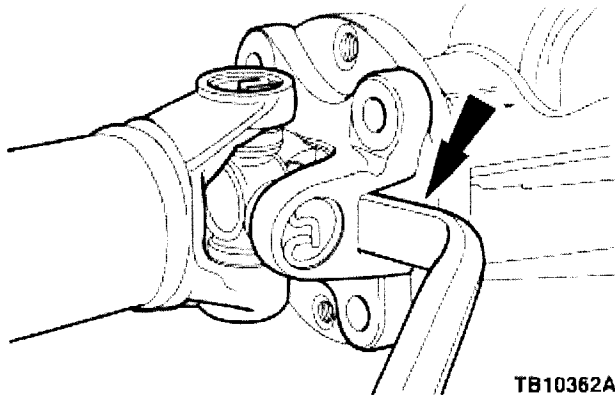

Figure 2 - 14-0090
5. Remove and discard the four (4) driveshaft flange bolts.
6. Disconnect the driveshaft centering socket yoke from the pinion flange. (Figure 2)